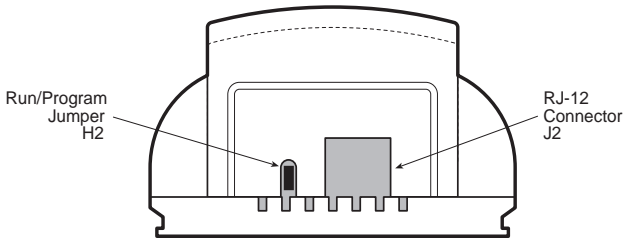

Figure 4-2. Location of Run/Program Jumper at H2
2. Locate the Run/Program jumper at H2 that protrudes from the board next to the RJ-12 connector (J2). Figure 4-2 shows the location of jumper H2.
2. Reinstall the Run/Program jumper on header H2. Refer to Figure 4-2 for the jumper location.